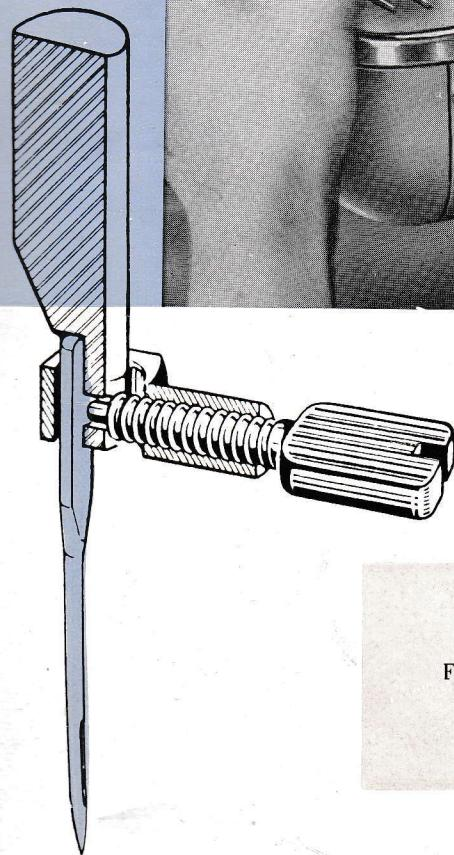

Fig. 9
- Loosen the needle clamp screw (Fig. 9) and insert the needle in the groove of the needle bar. Make sure that the flat side of the needle shank is towards the right.